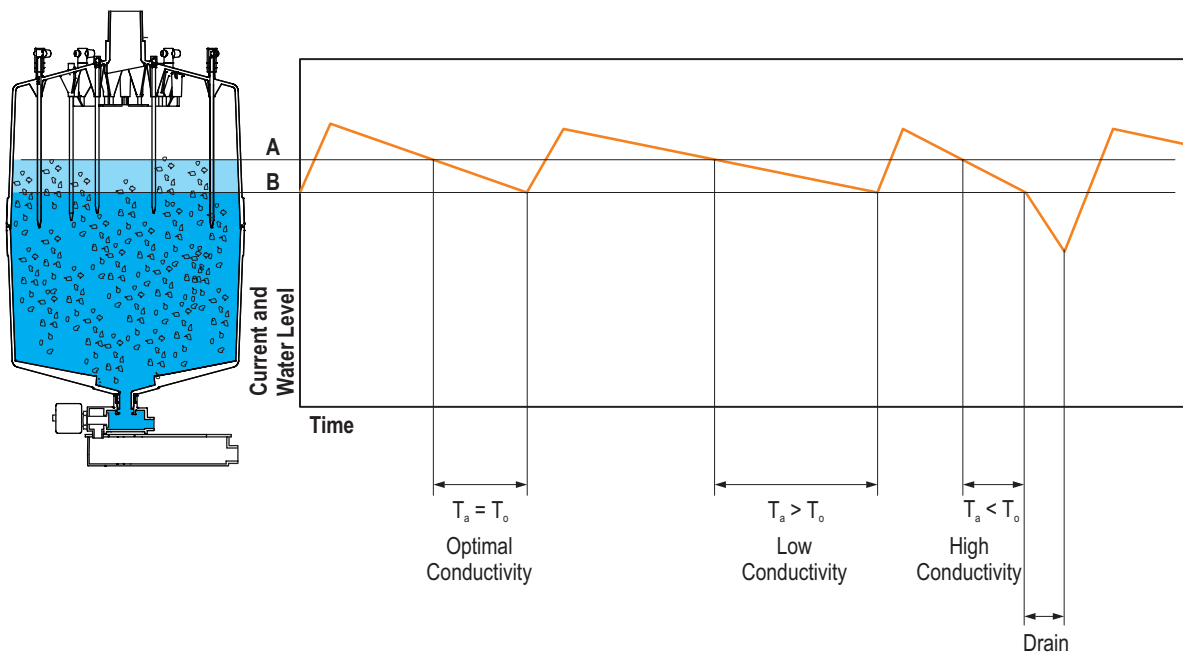

Figure 6: Conductivity Measurement
- If the Actual Time (T_a) is shorter than a predetermined Optimal Time (T_o) it indicates that the water has accumulated an excessive amount of dissolved minerals, and hence a demineralization drain is initiated. Refer to Figure 6.